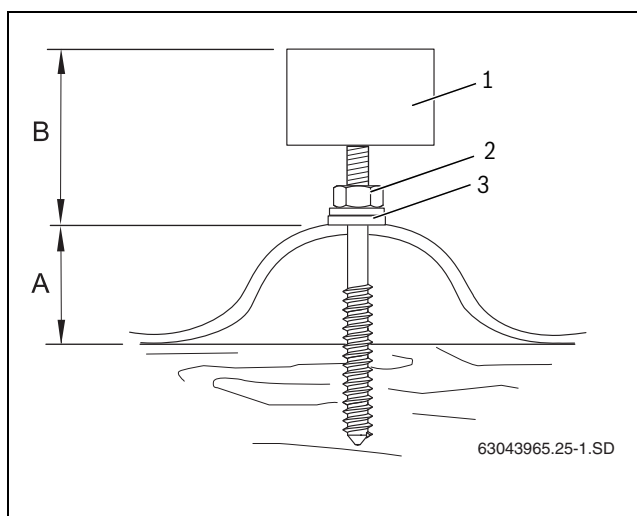

Fig. 23 Fitting the double ended screws - sequence
When turning the double ended screws, ensure that distance B (Tab. 7 and Fig. 23) is the same for all double ended screws.
- Tighten the nut (Fig. 23, [2]) until the sealing disc (Fig. 23, [3]) fully touches the roof.